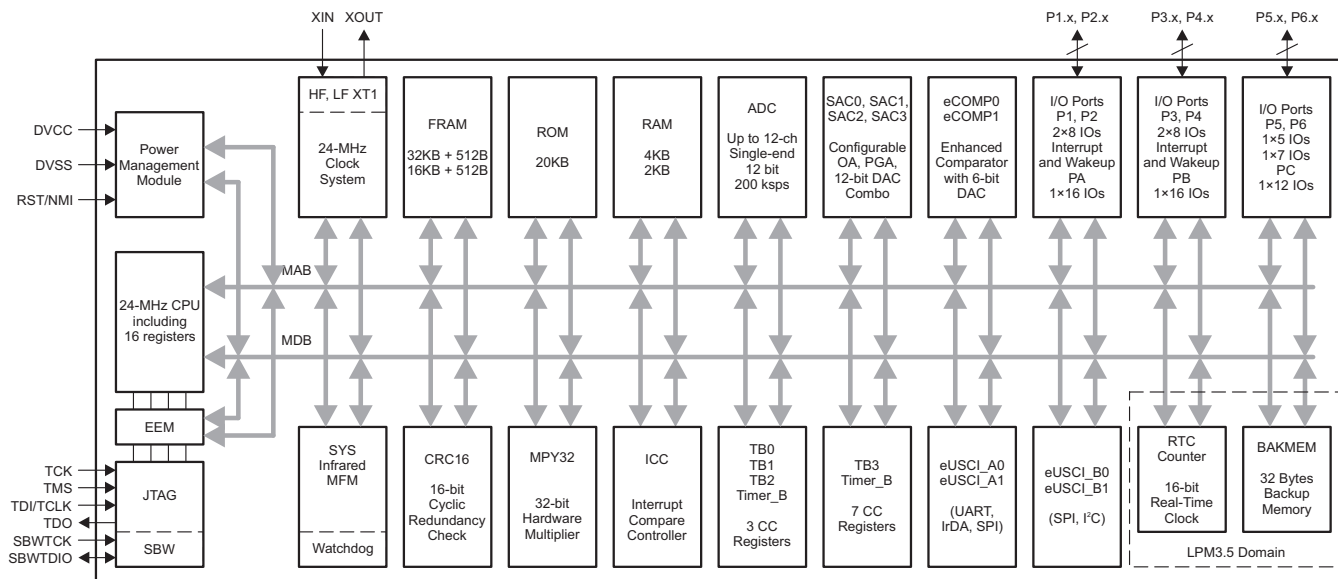
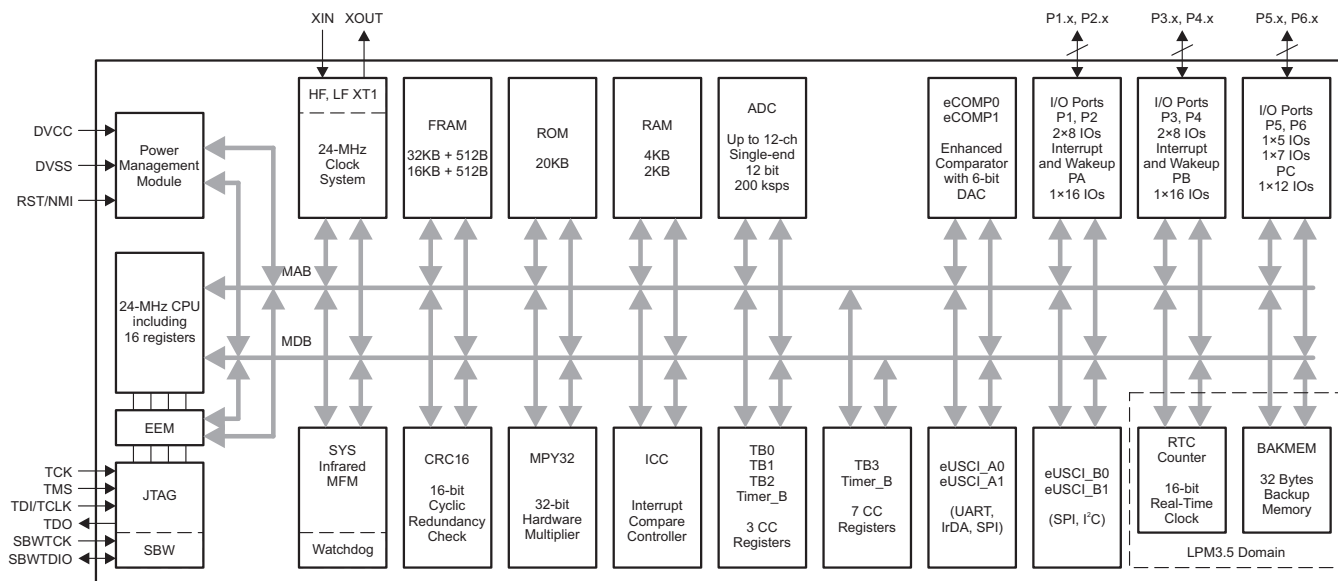

Figure 1-1. MSP430FR235x Functional Block Diagram
Figure 1-2. MSP430FR215x Functional Block Diagram
Figure 1-1 shows the MSP430FR235x functional block diagram.
Figure 1-2 shows the MSP430FR215x functional block diagram.
<ul style="list-style-type: none"> Corrected the ROM size in Figure 1-1 MSP430FR235x Functional Block Diagram and Figure 1-2 MSP430FR215x Functional Block Diagram 4 Added a note on all VQFN pinouts to indicate that the thermal pad should be connected to VSS 11 Corrected Figure 4-4, 32-Pin RSM (VQFN) (Top View) – MSP430FR235x..... 13 Changed the note that begins "Supply voltage changes faster than 0.2 V/μs can trigger a BOR reset..." in Section 5.3, Recommended Operating Conditions 27 Added the note that begins "TI recommends that power to the DVCC pin must not exceed the limits..." in Section 5.3, Recommended Operating Conditions 27 Changed the note that begins "A capacitor tolerance of ±20% or better is required..." in Section 5.3, Recommended Operating Conditions 27 Combined former sections 5.8 and 5.10 into Section 5.9, Production Distribution of LPM Supply Currents 31 Corrected the "SVS disabled" condition for Figure 5-1 31 Added the note "See MSP430 32-kHz Crystal Oscillators for details on crystal section, layout, and testing" to Table 5-3, XT1 Crystal Oscillator (Low Frequency) 35 Changed the note that begins "Requires external capacitors at both terminals..." in Table 5-3, XT1 Crystal Oscillator (Low Frequency) 35 Added the $t_{TB, cap}$ parameter in Table 5-13, Timer_B..... 45 Corrected the test conditions for the R_I parameter in Table 5-20, ADC, Power Supply and Input Range Conditions. 51 Removed ADCDIV from the equation for the ADC conversion time because ADCCLK is after division in Table 5-21, ADC, Timing Parameters 51 Added the note that begins "$t_{Sample} = \ln(2^{n+1}) \times \tau$..." in Table 5-21, ADC, Timing Parameters 51 Changed the unit from "nV" to "μV" for the "Input noise voltage" in the Table 5-25, SAC, OA 55 Changed the unit from "nV/√Hz" to "nV/√Hz" for the "Input noise voltage density" in the Table 5-25, SAC, OA 55 Removed the I_{ref} trim parameter from Table 5-27, FRAM 57 Changed the bitfield name from RTCCLK to RTCCCKSEL in the table note on Table 6-9, Clock Distribution 68 Added Section 6.10.17, Cross-Chip Interconnection (SACx are MSP430FR235x Devices Only) 83 Added P1SELC information in Table 6-41, Port P1, P2 Registers (Base Address: 0200h) 86 Added P2SELC information in Table 6-41, Port P1, P2 Registers (Base Address: 0200h) 86 Added P3SELC information in Table 6-42, Port P3, P4 Registers (Base Address: 0220h) 87 Added P4SELC information in Table 6-42, Port P3, P4 Registers (Base Address: 0220h) 87 Added P5SELC information in Table 6-43, Port P5, P6 Registers (Base Address: 0240h) 87 Added P6SELC information in Table 6-43, Port P5, P6 Registers (Base Address: 0240h) 87 Changed CRC covered end address to 0x1AF7 in table note (1) in Table 6-70, Device Descriptors 107